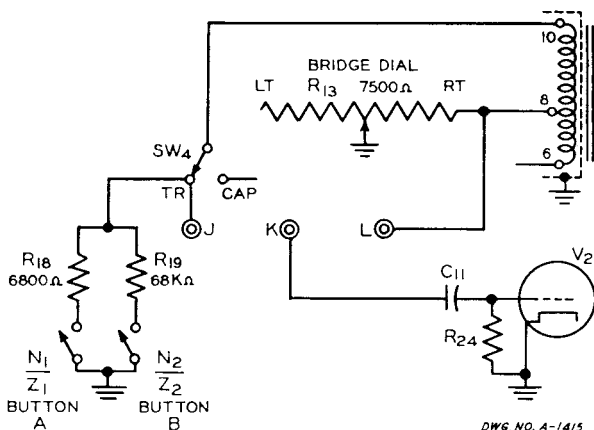

FIGURE 6
5.2 The basic circuit of the two range, line-frequency, ratio bridge is shown in Fig. 6.